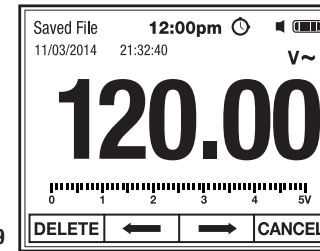

Fig. 19
4. Use the F2 \leftarrow and F3 \Rightarrow soft keys (Fig. 19) to select other Saved Files as shown in Step 2.
5. Press the F1 DELETE soft key to delete Saved File (Fig. 19).
6. Press the F4 CANCEL soft key to return to Measurements without deleting (Fig. 19).